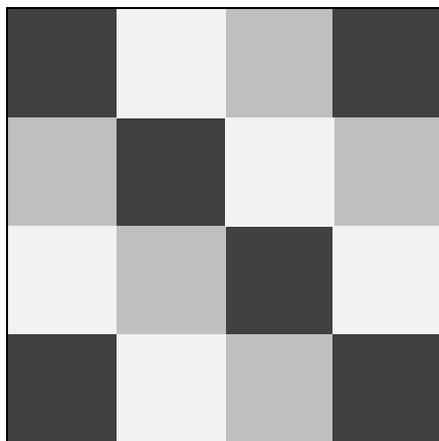

Figure 4-2. Display Test Pattern
2. Press **F3** CAL. The display will show a dark test pattern, see Figure 4-2